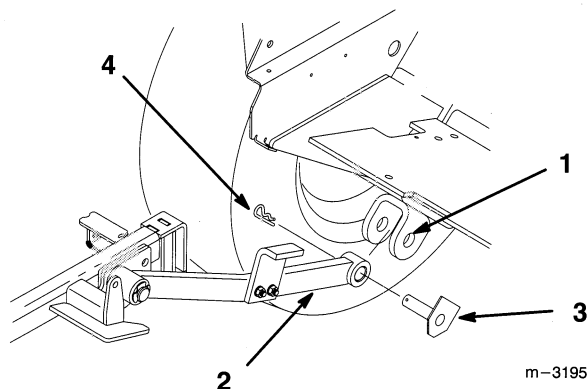

Figure 5
1. Position carrier frame in front of traction unit and place push arms into clevises (Fig. 5).
2. Retain push arms with pivot pin assemblies, aligned with flat against frame, and secure with hairpin cotters (Fig. 5).